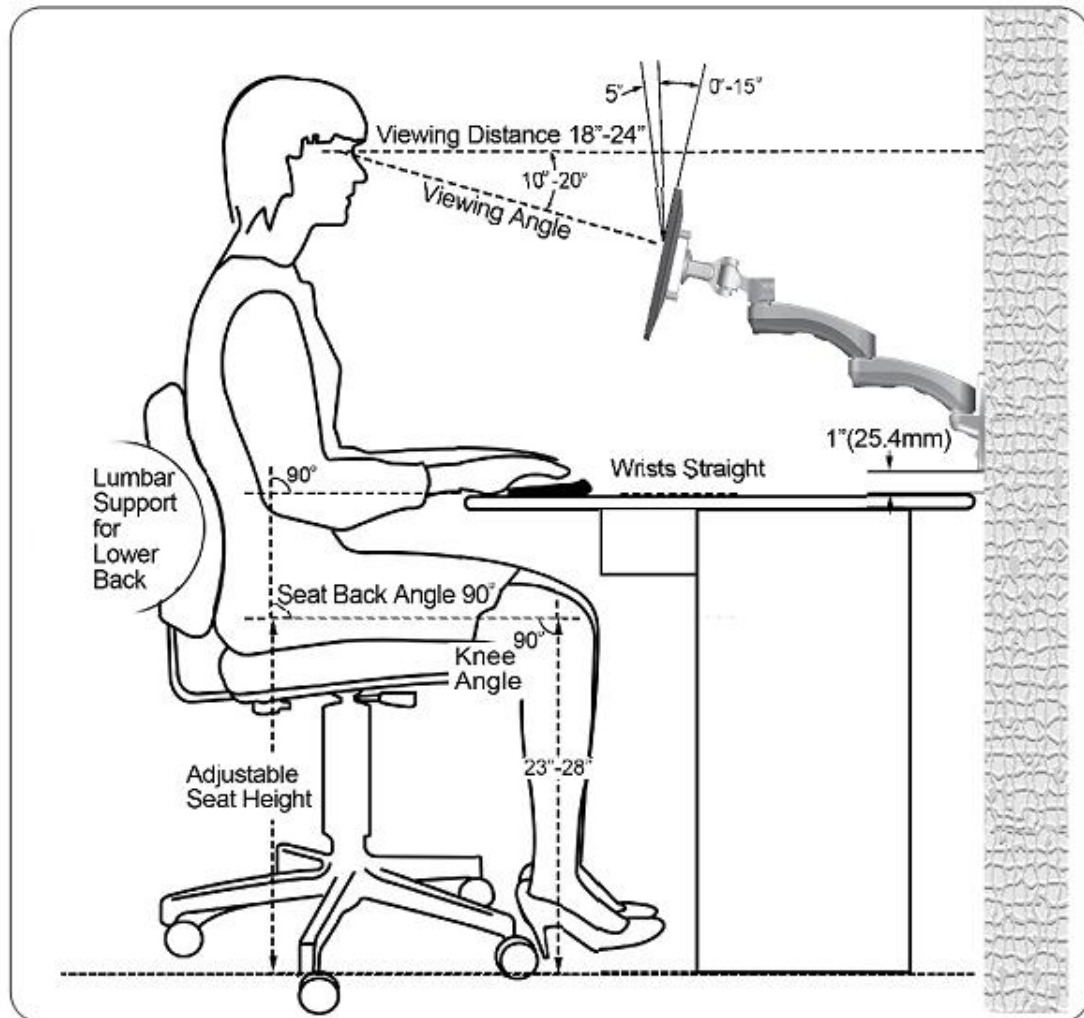

Figure 6-2
2. To assess the fit between a person and their work, ergonomists recommended that the optimal screen position should be slightly below eye level. Viewing angle should be approximately 10° - 20° downward onto the screen's center. The lumbar (bottom five vertebrae in the spine) needs to be supported to decrease disc pressure. Sitting in a chair with a backrest that inclines backwards and has adequate lumbar support is critical to prevent excessive lower back pressures. The recommended ergonomic seating position to minimize pressures is to sit with the wrists straight at a 90° angle from the floor and seat and knee angle must also be at a 90° angle. Angular adjustment to reduce reflection on your monitor should range from 5° forward tilt to 15° backward tilt (See Figure6-2).